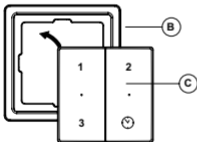

Fig 5.
2. Place cordless switch C (fig.5) into frame B, until it clicks into position.